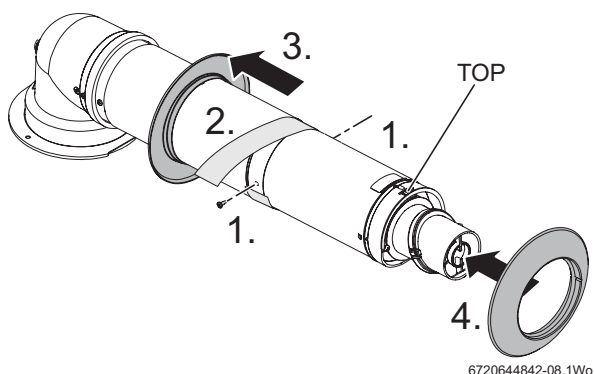

Fig. 13 Telescopic flue
1. Referring to figure 13, set the flue length to the distance required, secure with screws.